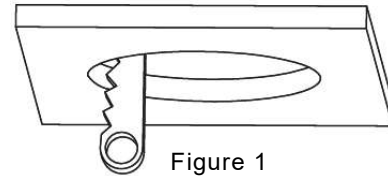

Figure 1
2. After marking the center point of where the fixture will be located, using the provided template cut the required hole shown in figure 1 which is 140mm or approximately 5.5".